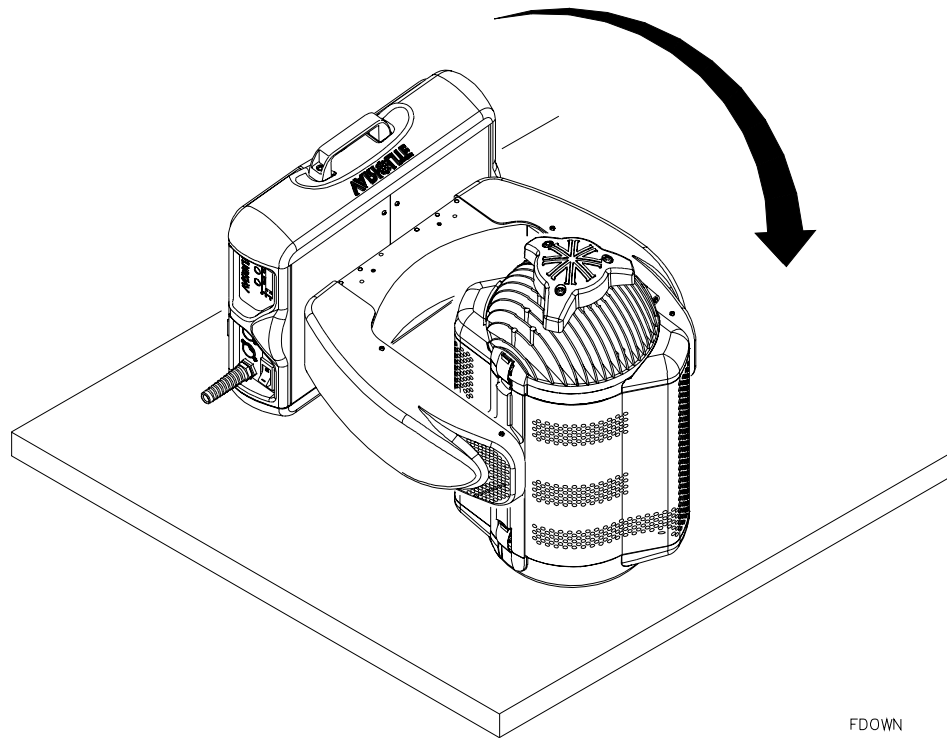

Figure 2-15: Laying Luminaire on Its Side
- Step 3. Carefully lay luminaire on its side, ensuring that lens does not come into contact with any surface. **Figure 2-15.**